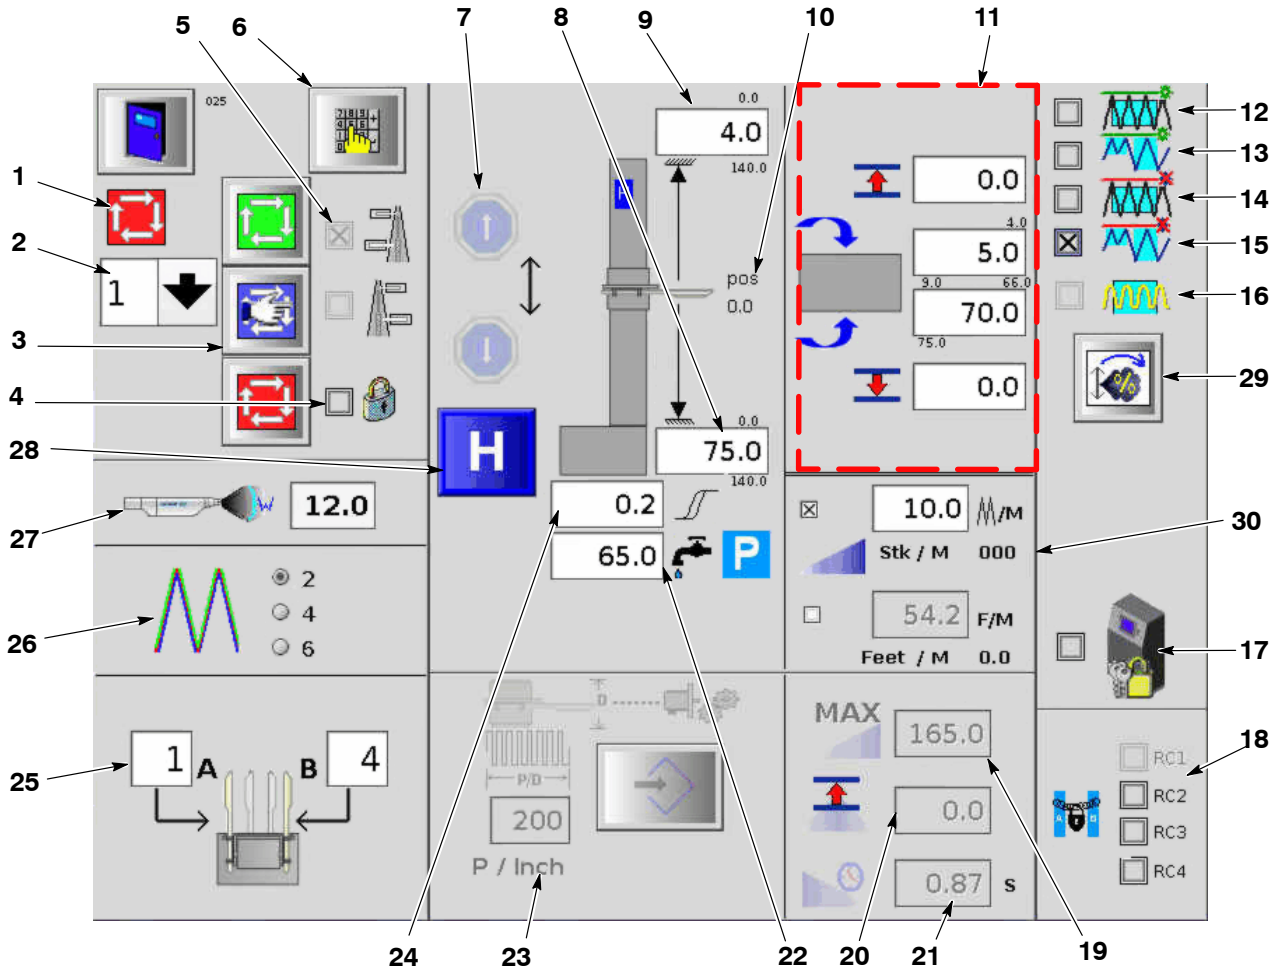

Figure 4-13 Reciprocator Configuration Screen
1. Touch the Home button to home the reciprocator. When home is completed move the reciprocator carriage down by hand until the current position (10, Fig. 4-13) reads 6 inches or some other even number.
Master/Slave Select (18)	<p>Allows you to slave reciprocators to the current reciprocator. The settings for the master are then used for the slaves. In Figure 4-13, reciprocator RC2 is slaved to reciprocator RC1.</p>